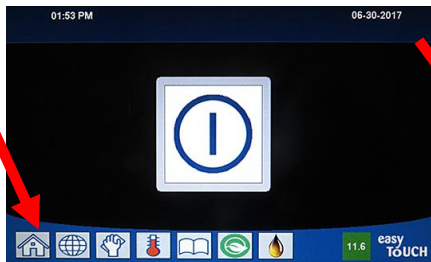

Figure 18
16. Press the “**HOME**” button on the (see Figure 18) on the next page.
12. Wait two (2) minutes and press the **"HOME"** button on the (see Figure 18).
18. Press the **"HOME"** button (see Figure 18) when finished.